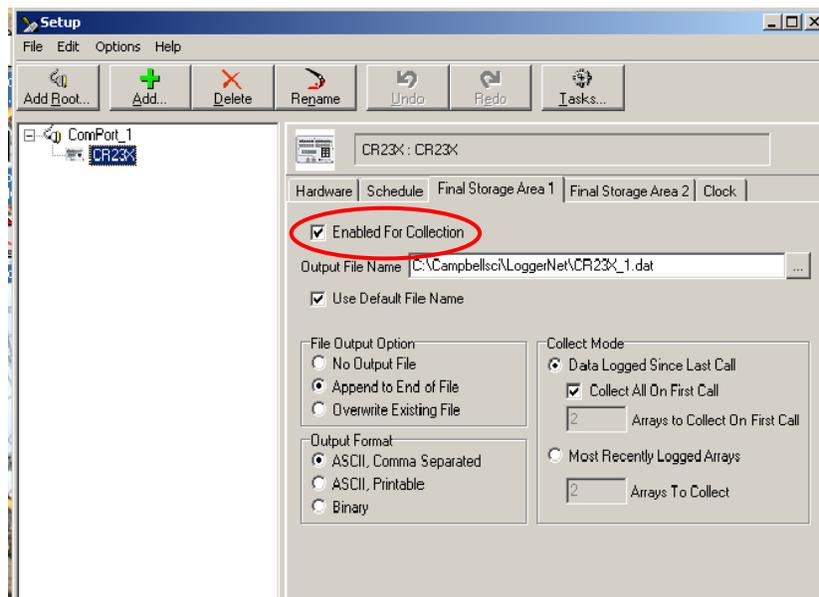

Figure 17
- c) Under the **Final Storage Area 1** tab, check the **Enabled for Connection** box (see Figure 17). Leave all other settings as they are.